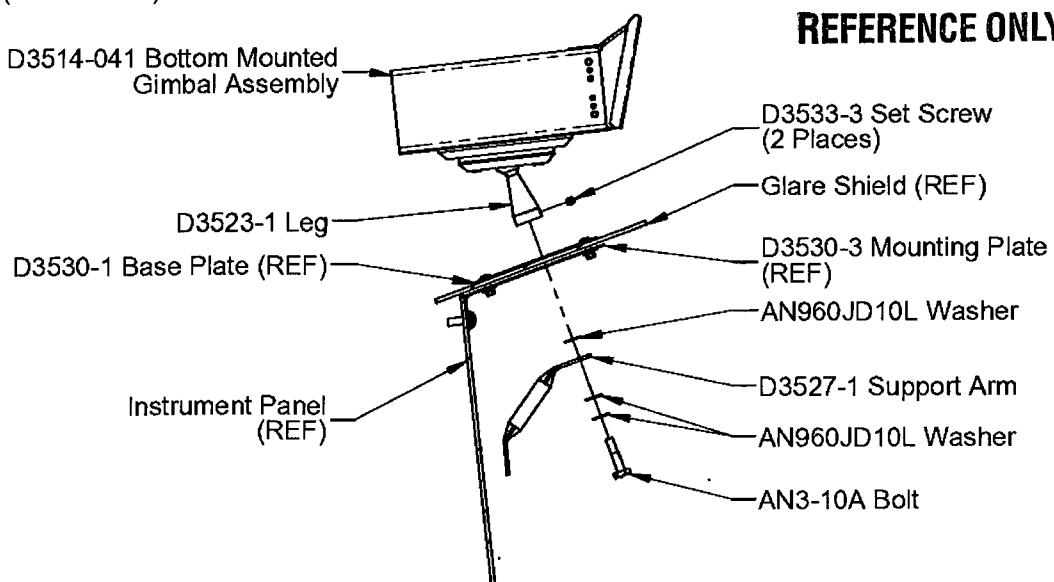

Figure 3.2.4 – Installation of the D3514-041 Bottom Mounted Gimbal Assembly on the Glare Shield
3.2.7 Remove the AN3-10A bolt and washers from the D3514-041 Bottom Mounted Gimbal Assembly. Install the D3514-041 Bottom Mounted Gimbal Assembly as shown in **Figure 3.2.4**. Torque the AN3-10A bolt to 15-25 in-lbs (1.7-2.8 N-m). Torque the D3533-3 Set Screws to 5-6 in-lbs (0.6-0.7 N-m).